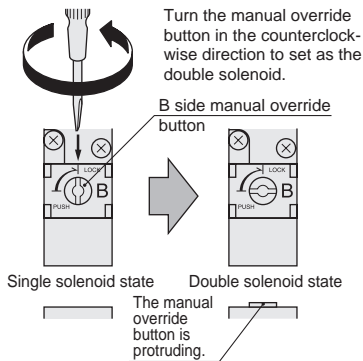

Figure 2
2. As shown in Fig. 2, use a small screwdriver, etc. to turn the manual override on the B side by 90 degrees in the counterclockwise direction, so that the manual override button's slit is horizontal, as shown on the right side of the figure. Then the unit can be used as a double solenoid valve. When using it as a double solenoid valve, the button is used as the manual override button for the B side.